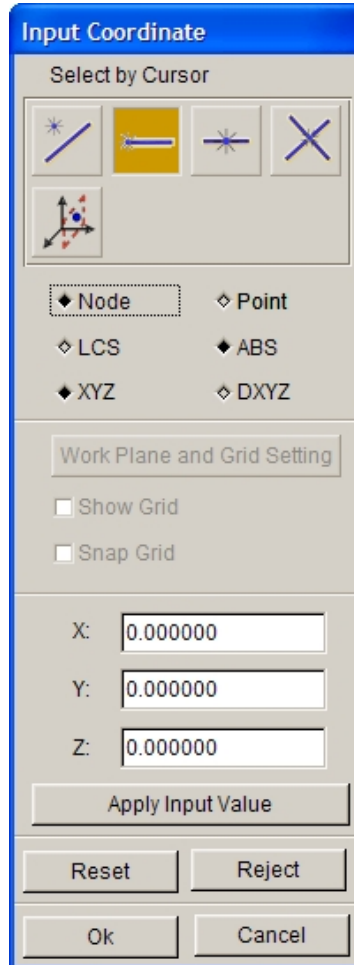

Figure 5.3.15 Input Coordinate dialog box
- If **NODE/POINT** is selected, the dialog box as illustrated in Figure 5.3.15 is displayed. This window prompts the user to select the appropriate **NODES/POINTS** and also provides an option to define the orientation vector.